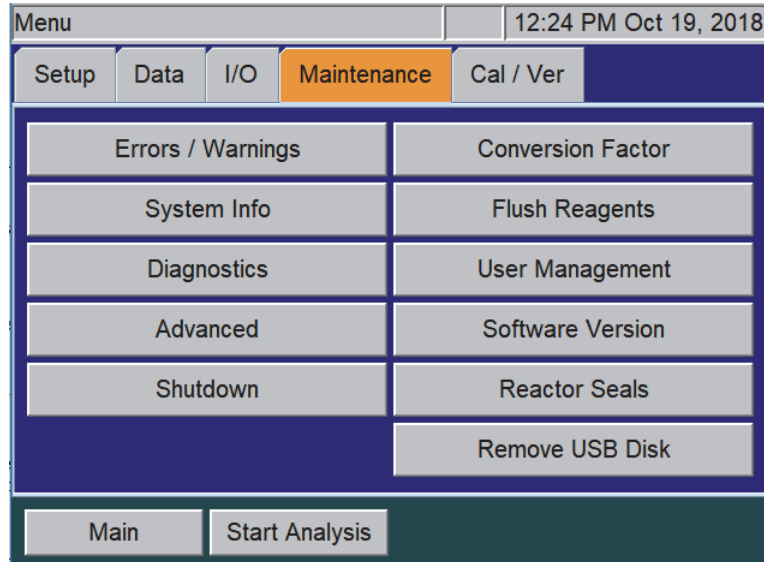

Figure 28: The Maintenance Tab
Configure up to five conversion factors that can be applied to the Analyzer's results by using the Conversion Factor feature (**Maintenance** tab → **Conversion Factor**) shown in Figure 28.
2. Select the **Maintenance** tab and press the **Conversion Factor** button (Figure 28) to access the five available conversion factors (**Factor 1**, **Factor 2**, **Factor 3**, **Factor 4**, and **Factor 5**).